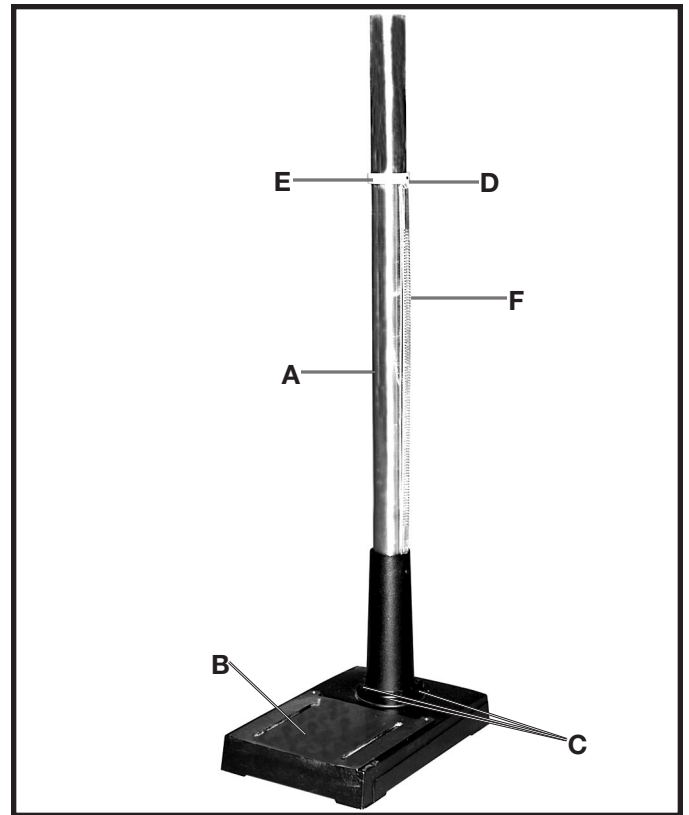

Fig. 3
1. Assemble the column (A) Fig. 3, to the base (B) using the four M10x40mm hex head screws (C), three of which are shown. Loosen set screw (D) with 3mm wrench supplied, and remove ring (E) and raising rack (F).